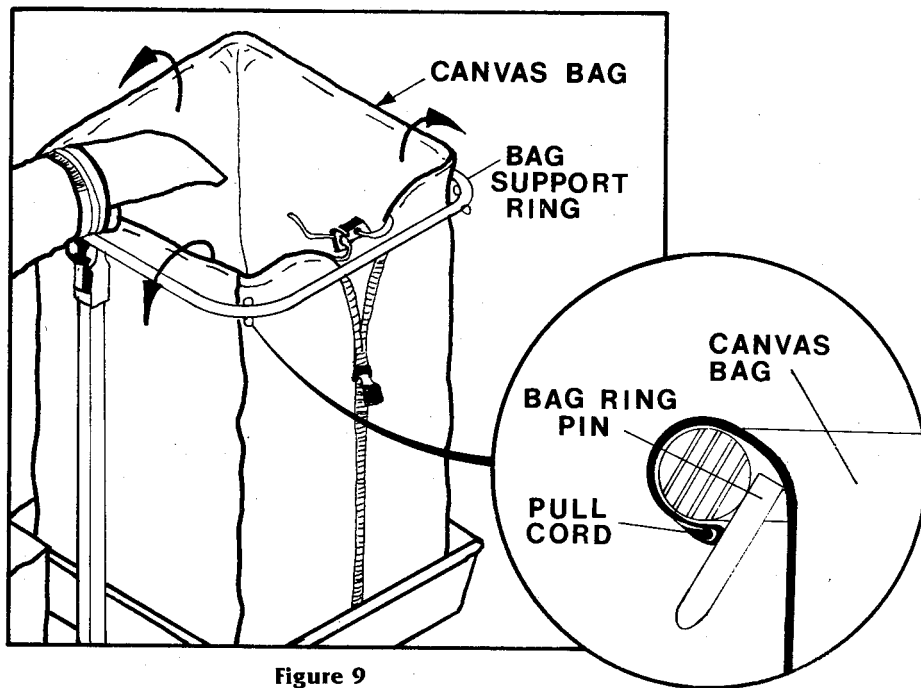

Figure 9
Step 8 (Refer to Figure 9)
Place Canvas Bag in Tray Assembly open end up, zipper side to the rear. Pull Bag upward through Bag Support Ring about 1 - 1 1/2" (38mm) center zipper in rear rolling edge of Bag inside out over Bag Support Ring (as shown in Section View). Tighten Pull Cord ensuring that top edge of Bag fits over the Bag Support Ring and is snug against the pin in each corner. Secure Pull Cord in catch. (See Figure 9 Section View)